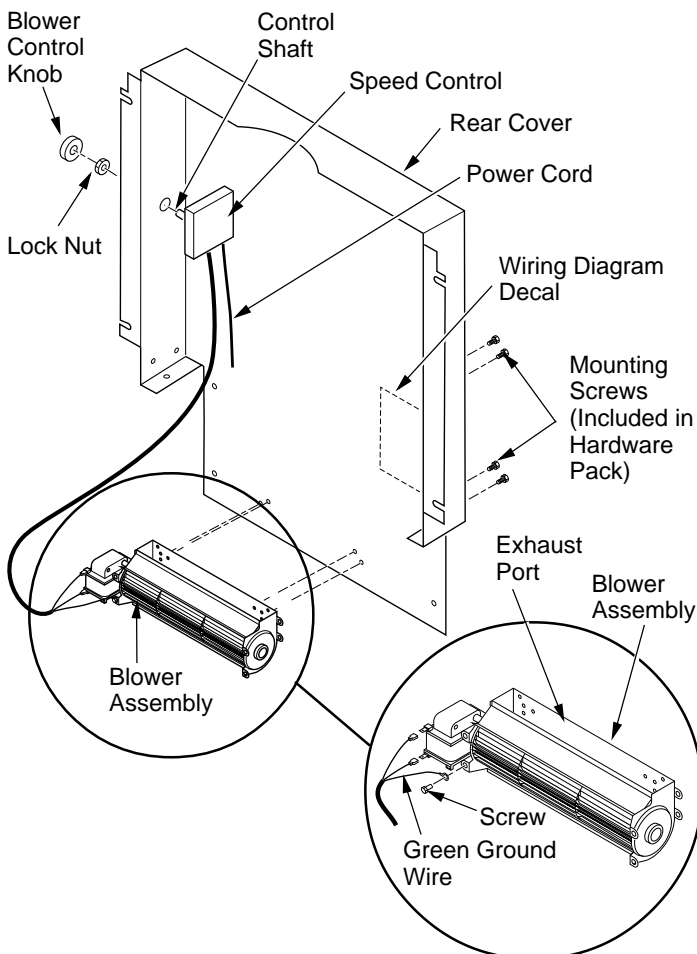

Figure 23 - Installing Optional Blower Accessory
3. Align the holes in the top mounting tabs of blower with the holes in wall of rear cover (see Figure 23, page 9). Using the 4 screws provided, mount blower and tighten screws securely.
5. Attach green ground wire from power cord to blower housing using screw provided (see Figure 23, page 9). Tighten screw securely.
7. Place speed control on left inside of rear cover and push the plastic control shaft through opening (see Figure 23).
8. While supporting speed control, secure control shaft with lock nut by pushing and turning lock nut with pliers clockwise until tight against the side of rear cover. Place control knob provided onto shaft (see Figure 23).
13. Peel off the backing paper and stick the supplied wiring diagram decal on the inside of rear cover as shown (see Figure 23).